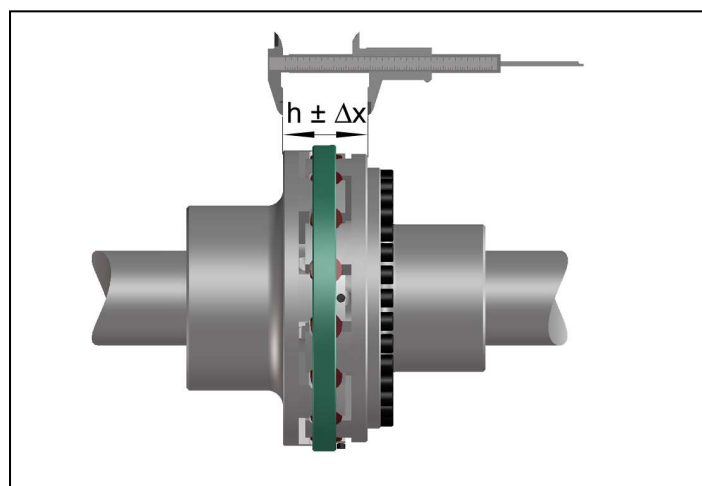

Fig. 9
- Measure the axial flange distance 'h' according to fig. 9.